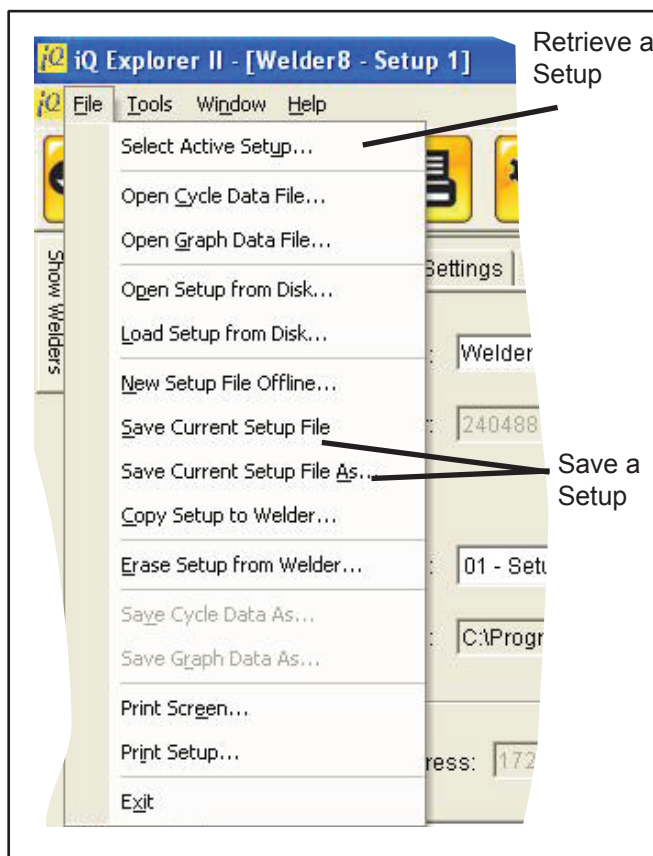

Figure 4-47 Save and Retrieve Setup Files
1. Click File on the Main Menu. (Refer to Figure 4-47.)